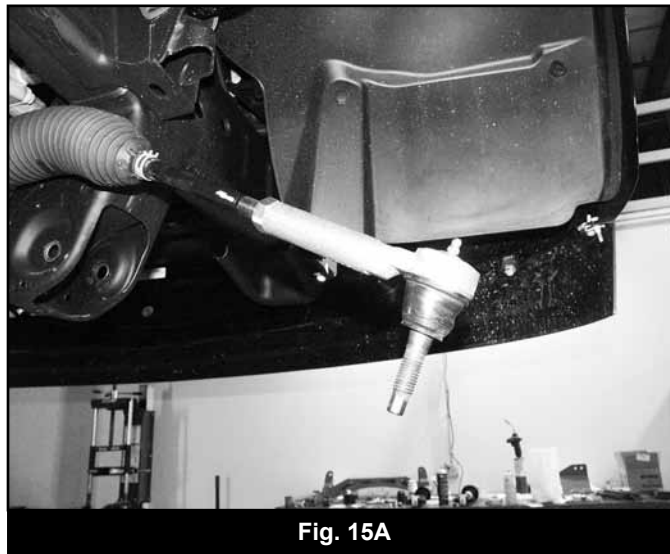

Fig. 15A
33. Working on one side at a time, remove the tie rod end from the steering link (Fig 15A). Trim 3/8" off of both the tie rod end and the steering link. (Fig 15B,C) This will allow for proper alignment adjustment once the kit is complete. Once the two pieces are trimmed, clean the ends of the threads and reinstall the tie rod end on the steering link. Repeat on other side of the vehicle.